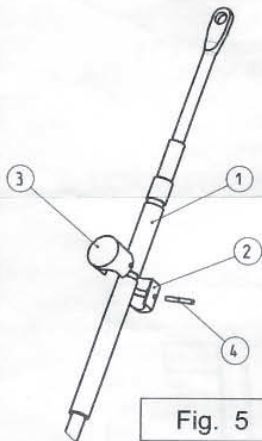

Fig. 5
2. **Use of F05 cables (see Fig. 5):** Insert the lower barrel in the groove, as shown in the Figure. Insert the upper barrel (3) matching it with the lower barrel (2). Insert the elastic pin (4), making sure that the holes of the two barrels are perfectly aligned. The **F14** cable does not need any adapter.